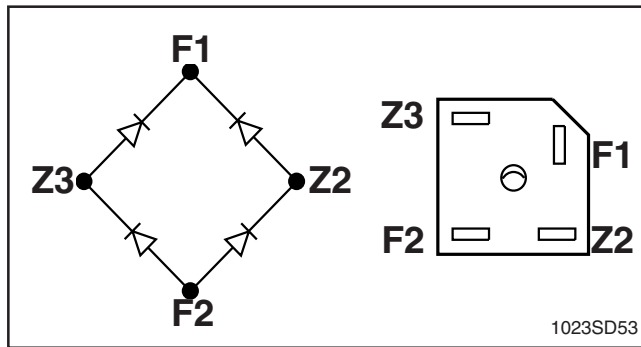

Figure 5-17. Diode Bridge Rectifier
2. Remove the four leads from the bridge rectifier (16) confirming lead markings per Figure 5-17.